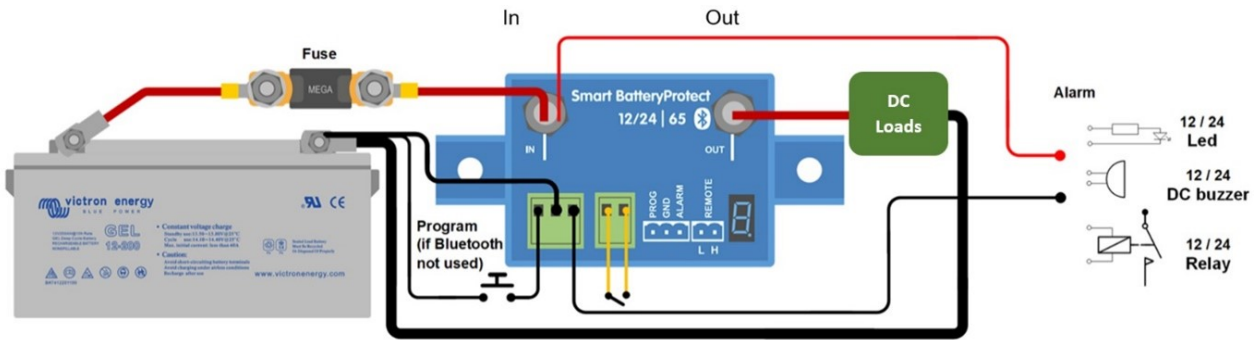

Figure 1: Connection diagram of the SBP-65 (use the remote input for system on/off functionality)
- A remote on-off switch can be connected between Remote H and Remote L (see figure 1). Alternatively, terminal H can be switched high (to battery positive), or terminal L can be switched low (to battery negative).
- A buzzer, LED or relay can be connected between the alarm output terminal and the battery positive (see figure 1). Maximum load on the alarm output: 50 mA (short circuit proof).